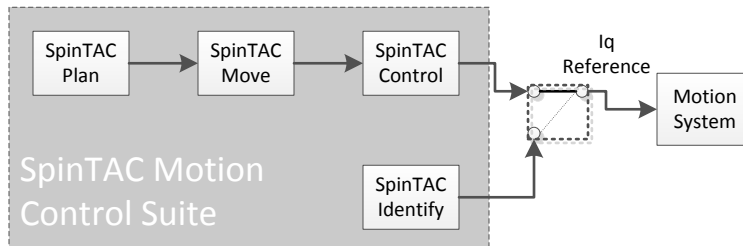

Figure 1-6. SpinTAC™ Motion Control Suite Components
- SpinTAC, a comprehensive motion control suite (see Figure 1-6) from LineStream Technologies, simplifies tuning and ensures optimal performance across dynamic speed and position ranges.